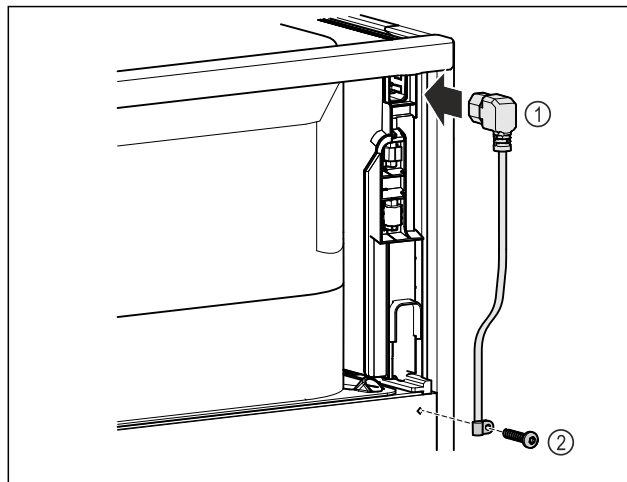

Fig. 43
- IEC socket of the power cable Fig. 43 (1) on the rear side of the appliance.
- Install mains tension relief Fig. 43 (2)